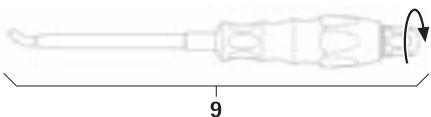

Fig. 15
- ▶ Mount rod insertion instrument 9, see Fig. 15.